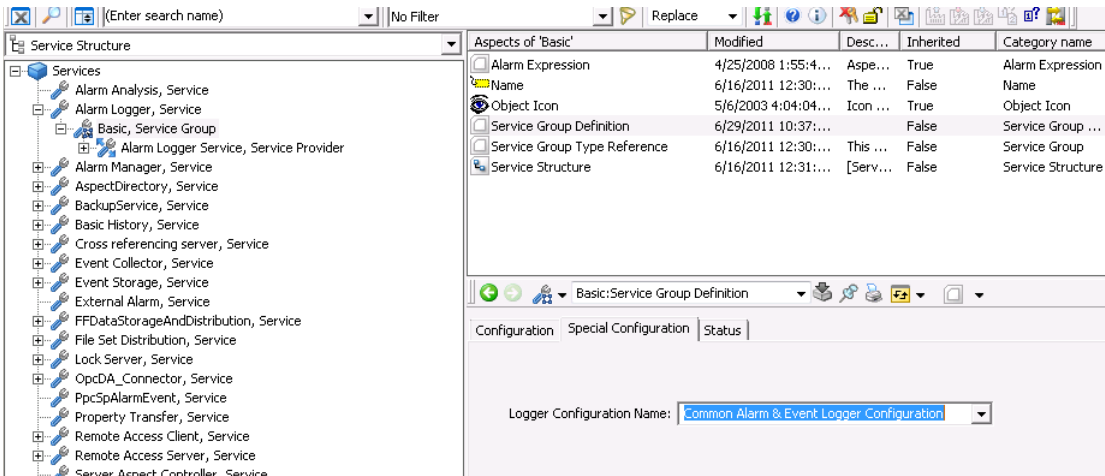

Figure 61. Service Group Definition Aspect - Special Configuration Tab
- 3. Select Basic, Service Group and open the Service Group Definition aspect and its configuration view, refer to Figure 61.